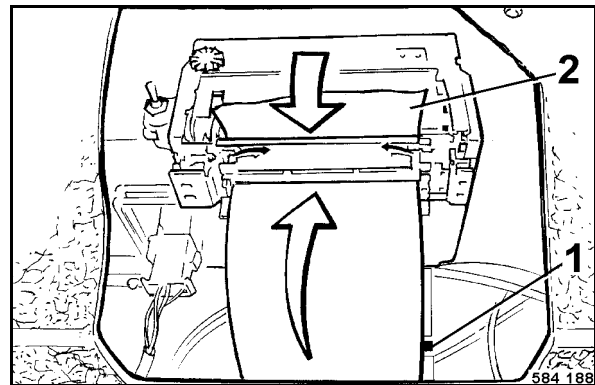

Fig. 104
- Remove shaft 1 (Fig. 104) with the rest of the paper roll (2).